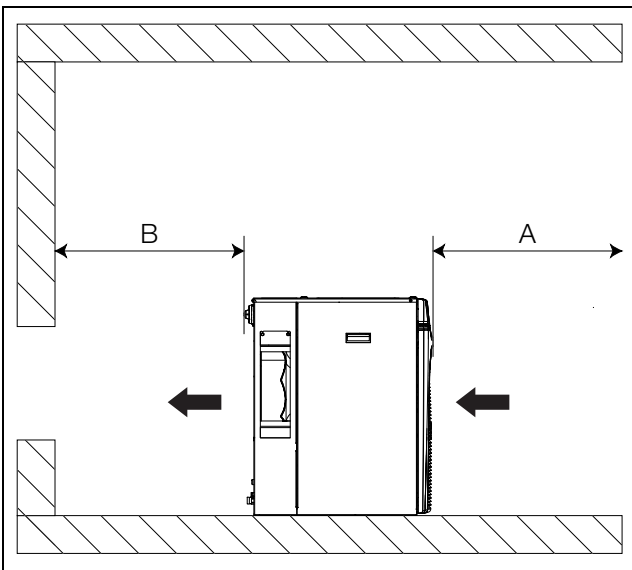
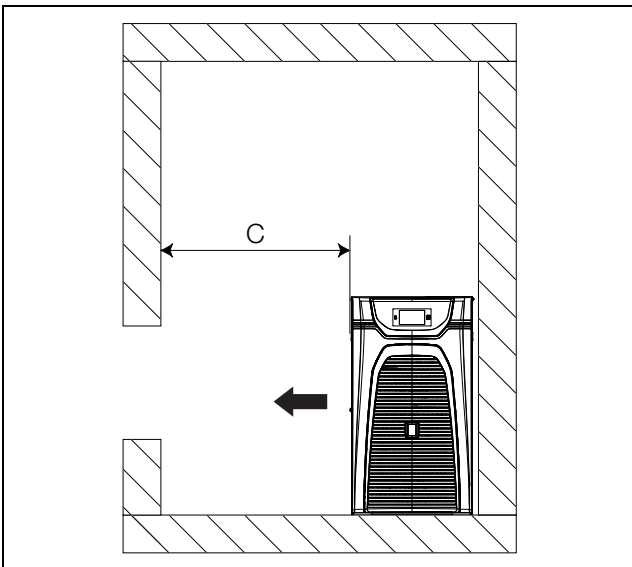

Fig. 30: Minimum distances, front/rear
Fig. 31: Minimum distances, sides
- At least **one** of the openings (left or right) must be freely accessible to enable the unhindered expulsion of hot air (see fig. 31). To allow connection of the supply lines and facilitate maintenance and repair work, the minimum distances shown under fig. 30 should be adhered to.
- In order to avoid an "air short-circuit" (mixing of air intake and waste air) and ensure full cooling performance, the minimum distances shown under fig. 30 should likewise be adhered to.